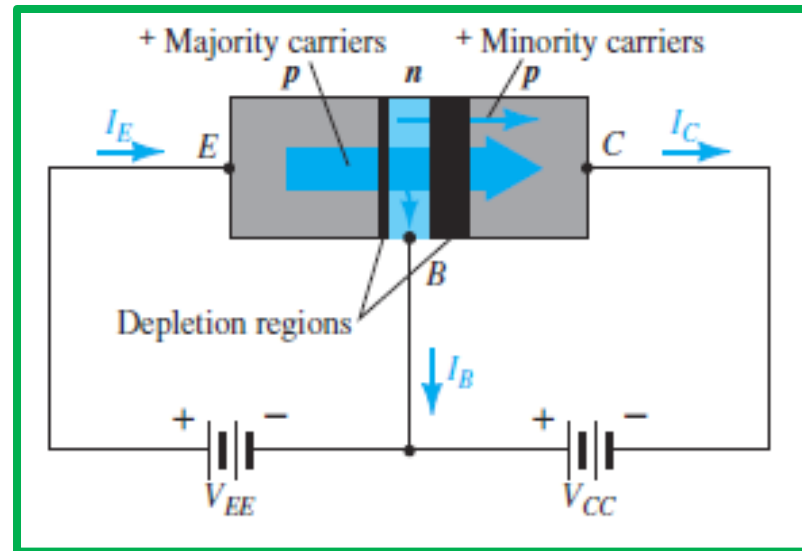

Figure 3: Majority and minority carrier flow of a pnp BJT.
- ❑ In Fig. 3 both biasing potentials have been applied with the resulting majority- and minority-carrier flow indicated.
- ❑ Combining this with the fact that all minority carriers in the depletion region will cross the reverse-biased junction of a diode accounts for the flow indicated in Fig. 3.
- ❑ Applying Kirchhoff's current law (KCL) to the BJT of Fig. 3 as if it were a single node yields